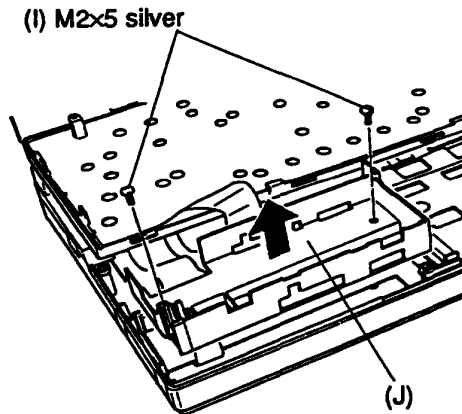

Figure 4-8 Removing the built-in modem case
10. Remove the two (M2x5 silver) screws (I) securing the built-in modem case (J). Then remove the case from the computer and place it aside (Figure 4-8).
2. Install the built-in modem case and secure the two (M2x5 silver) screws (Figure 4-8).